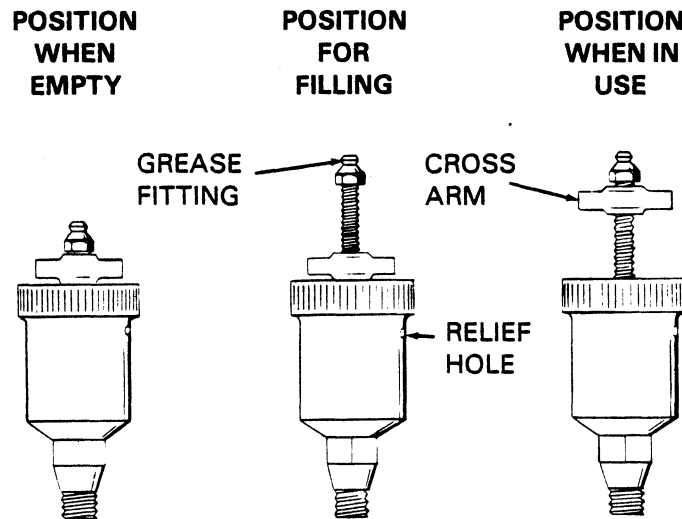

Figure 5. Automatic Lubricating Grease Cup
Before removing the seal assembly, turn the cross arm on the seal grease cup (13) clockwise until it rests against the cover (see figure 5). This will prevent the grease in the cup from escaping after the seal is removed.
Before starting the pump, fill the grease cup through the grease fitting with a good grade of No. 2 pressure gun grease until grease escapes from the relief hole. Turn the grease cup arm counterclockwise until it is at the top of the stem; this will release the spring to apply grease to the seal (see figure 5).